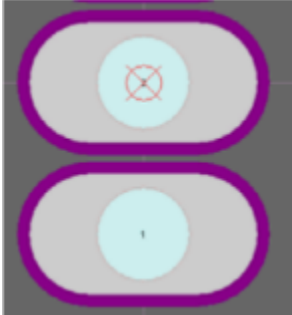

Figure 52. Pads with the solder mask displayed
2. Now click on the layer tab, eg. **Top Solder** , at the bottom of the design window to view the top solder mask, as shown in Figure 52. **Note** : The ring that appears around the edge of each pad in the color of the Top Solder Mask layer represents the edge of the solder mask shape protruding by the expansion amount from under the multilayer pad (because *multilayer* is at the top of the layer drawing order, it is drawn on top. The layer drawing order is set through the **PCB Editor - Display** page of the *Preferences* dialog).